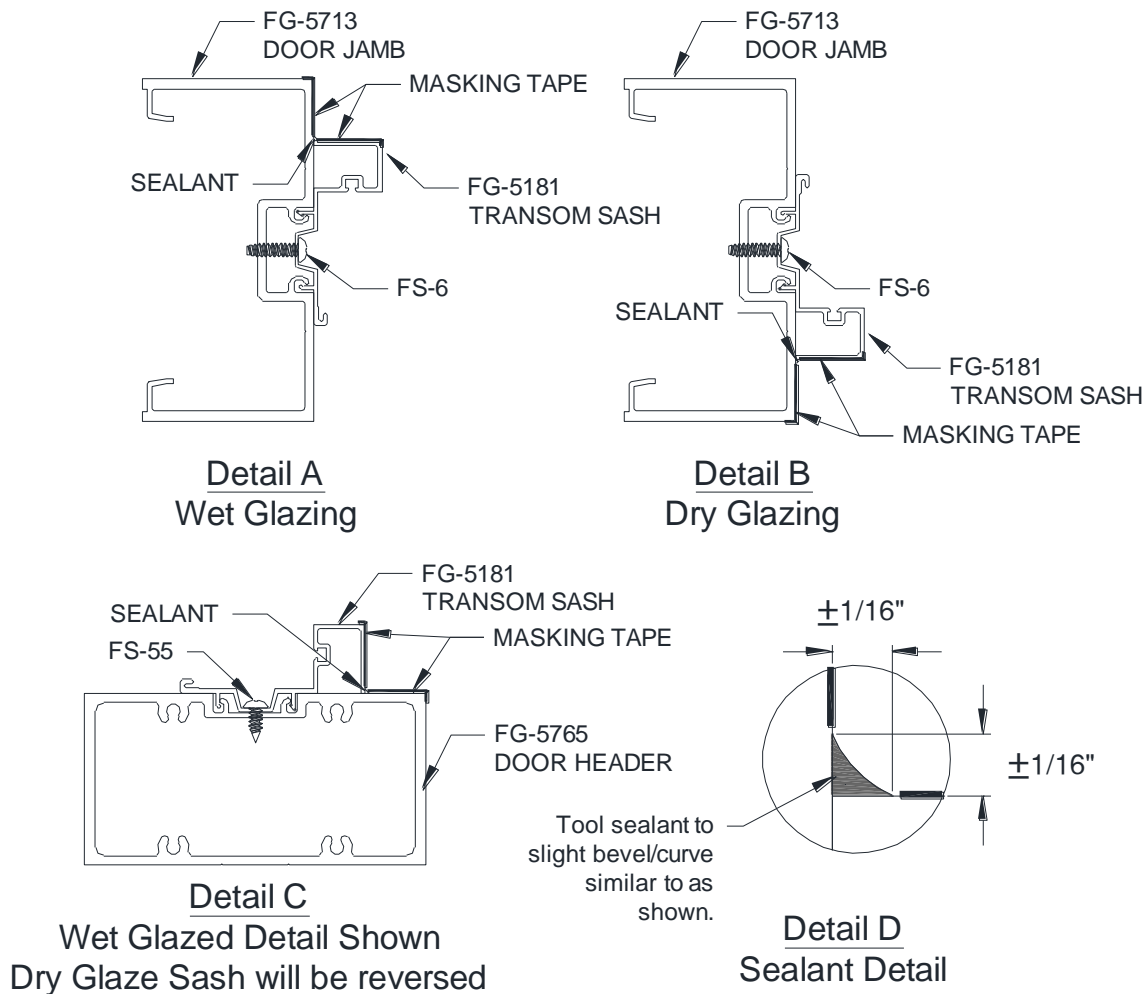

Figure 23: Sealing Transom Sash
- 10.3 Clean Door Jamb and Transom Sash surfaces with isopropyl alcohol. Mask off Transom Sash and Door Jamb with 1" wide (minimum) low-adhesion masking tape. Reference *Figure 23, Detail A, Detail B and Detail C*, for masking tape application location.
- 10.4 Apply a thin bead of sealant to the joint, taking care not to leave any voids or air bubbles. Immediately tool, creating a smooth and finished joint, *Figure 23, Detail D*.